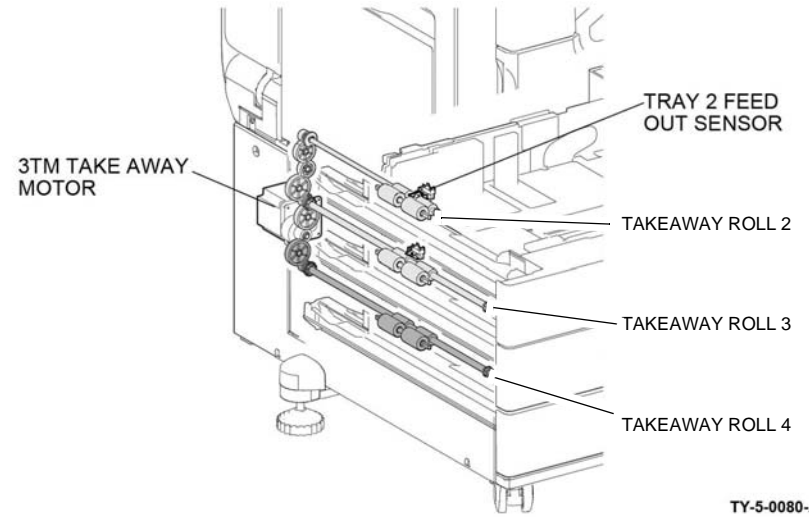

Figure 6 3TM takeaway
- Tray 2, 3 and 4, Figure 6.
When feeding from tray 3 or tray 4 of a 3TM, the takeaway motors of all the above paper trays are energized and drive their associated takeaway rolls, Figure 6. At the same time the tray 3 or 4 feeder is activated and paper is fed from the feeder onto the associated takeaway roll (3 or 4). Trays 3 and tray 4 have no feed out sensors. The takeaway motors for trays 1, 2, 3 and 4 will stop when the registration sensor detects the lead edge of the final sheet in a print job.